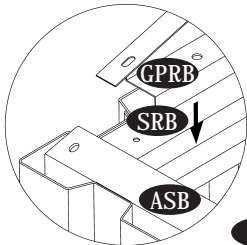
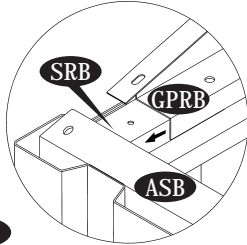

Fig.1
Fig.2
1. Place the Gable panel (GPRB) on top of the sliding channel (SRB). See fig.1. Push the Gable panel inside the top angle side (ASB). See fig.2. Align the holes with sliding channel and secure with (S1) screws from inside.